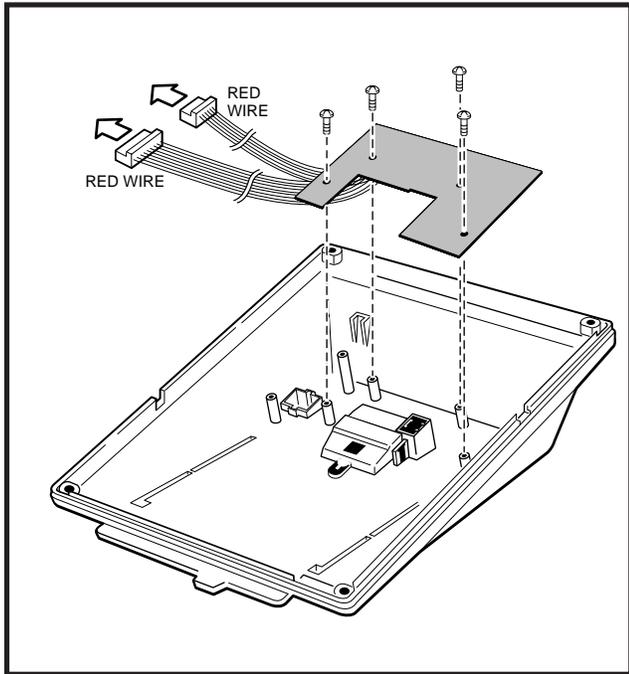

FIGURE 7-6
- 2) Loosen the four captive screws securing the metal plate to the standoffs inside the base where the DVSU will be installed (Figure 7-6). Remove the plate, which can be discarded.
- 3) Position the DVSU PCB on the standoffs (Figure 7-6), and secure with the four provided screws.